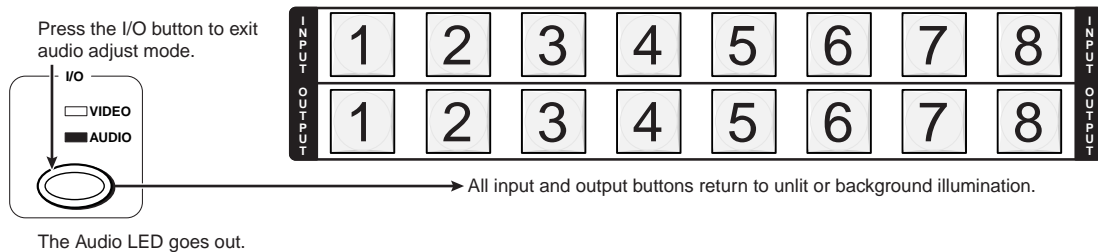

Figure 3-38 — Deselect audio mode
5. Press and release the I/O button (figure 3-38).